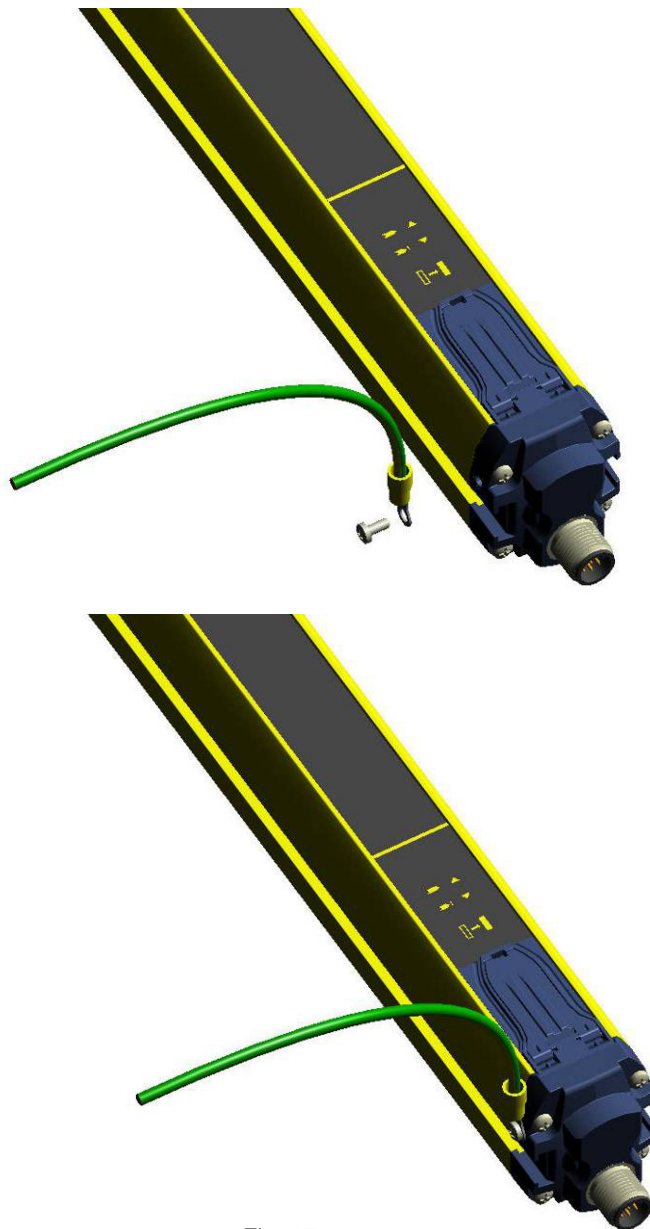

Fig. 17
- This connection can be carried-out using the screw supplied, which can be put into the proper threaded hole on the cap (see Fig.17).